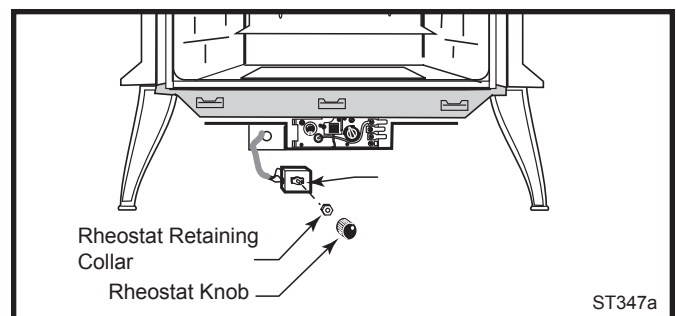

Fig. 17 Attach the fan rheostat.
- The rheostat control switch attaches to the left side of the valve bracket at the front of the stove. (Fig. 17)